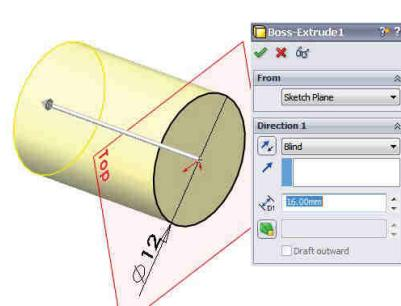

Fig. 2.52
**1** Trasare cerc  $\phi 12$ : Comanda Sketch – Fig. 2.52 – plan Top.
**2** Extrudare cerc  $\phi 12$ : comanda Extruded Boss/Base – Fig. 2.52 - Blind /  $\Delta_{D1}$  16 mm distanță /
**1** Sketching of the  $\phi 12$  circle: The Sketch command – Fig. 2.52 – Top plane.
**2** Extrusion of the  $\phi 12$  circle: the Extruded Boss/Base command - Fig. 2.52 – Blind /  $\Delta_{D1}$  16 mm distance / .